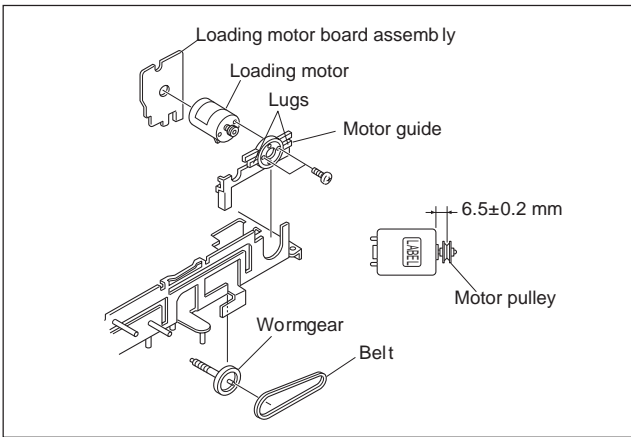

Fig.3-2-7a
- (1) Remove the belt wound around the worm gear.
- (2) Open the two lugs of the motor guide and remove the loading motor, loading motor board assembly and motor guide altogether by pulling them up.
- (3) When replacing the loading motor board assembly, take care with the orientation of the loading motor. (Install so that the loading motor label faces upward.)
- (4) When the motor pulley has been replaced, choose the fitting dimension as indicated in Fig.3-2-7a.